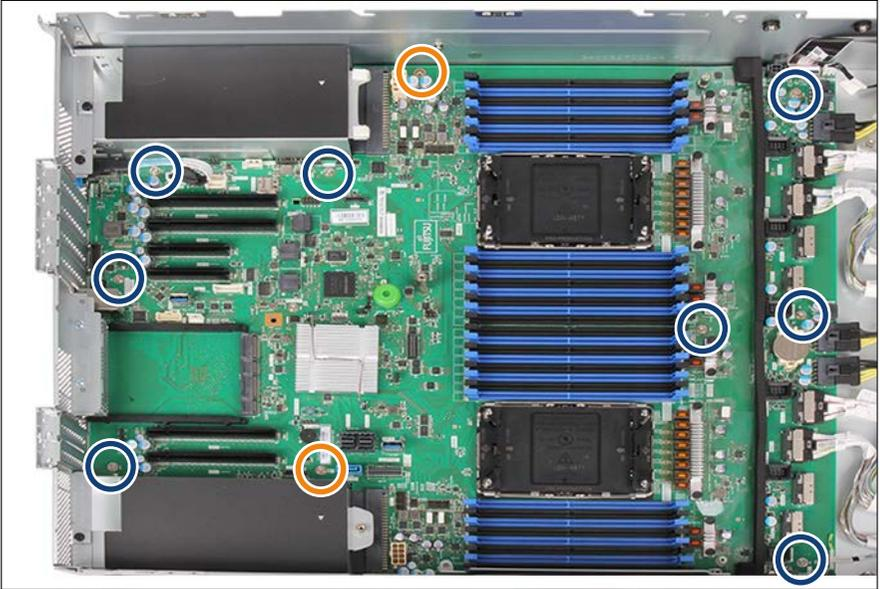

Figure 354: Position of the screws
- ▶ Adjust the system board. If necessary adjust the position of the system board with a gentle twisting motion (orange circles in Figure 354 show the centering bolts).
- ▶ Fasten the system board with ten screws, see Figure 354.
- ▶ Fasten the system board with the two specific screws, see Figure 354.